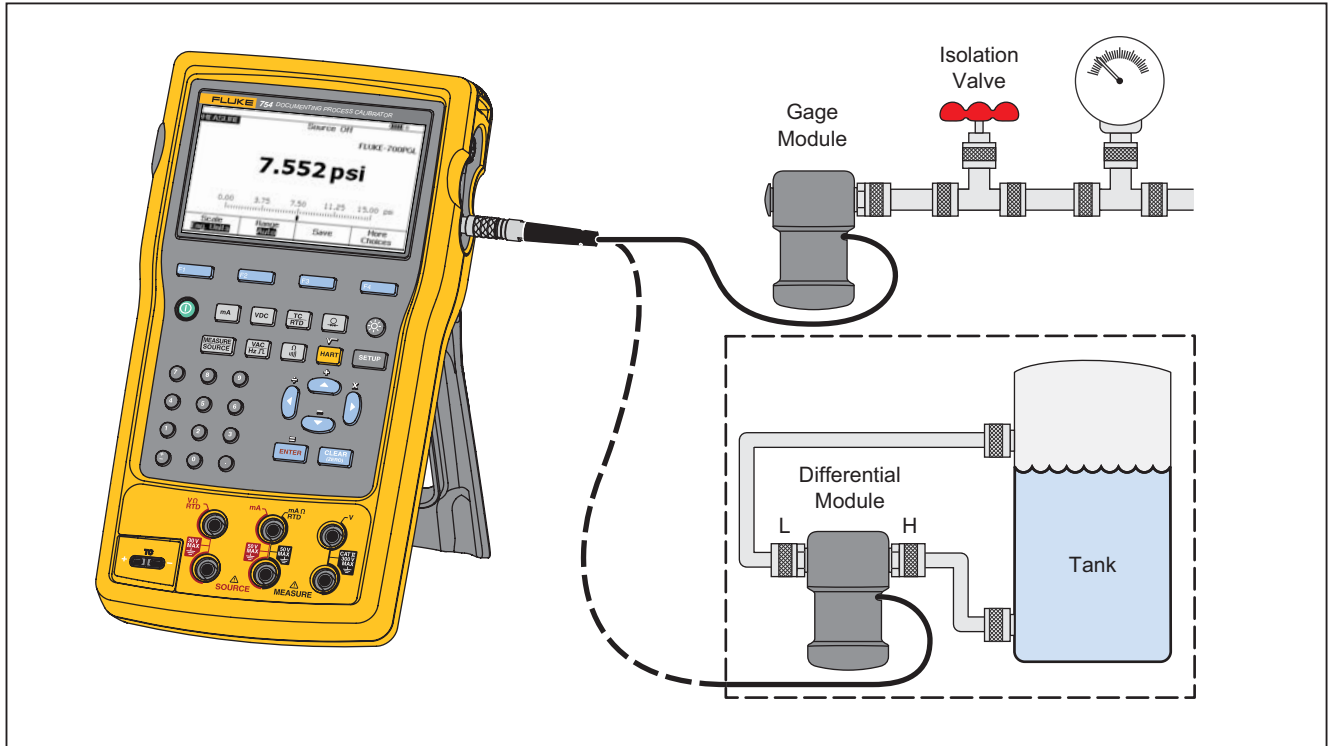

Figure 14. Pressure Measurement Connections
Connect a pressure module to the Product as shown in Figure 14. The threads on the pressure modules accept standard ¼ NPT pipe fittings. Use the supplied ¼ NPT to ¼ ISO adapter if necessary.
7. Attach the RTD to input jacks as the display or Figure 14 shows. Use the supplied jumper between the mA Ω RTD MEASURE low jack and the V MEASURE low jack as shown if using a 3-wire connection.